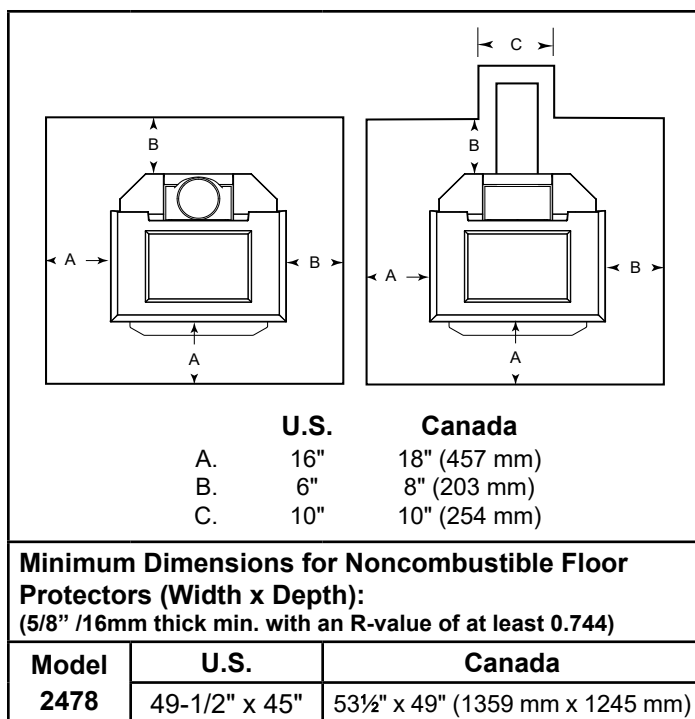

Figure 12 - Be sure to follow exactly the minimum floor protection requirements on all four sides of the stove.
U.S. Installations: The floor protector is required under the stove and must extend at least 16" from the front and left (loading door) side of the stove, and at least 6" from the right side and rear. (Figure 12)
In Canada: a noncombustible floor protector is required under the heater also. The floor protector must extend 18" (457mm) from the front and left (loading door) side of the stove, and at least 8" (203mm) from the right side and rear. (Figure 12)